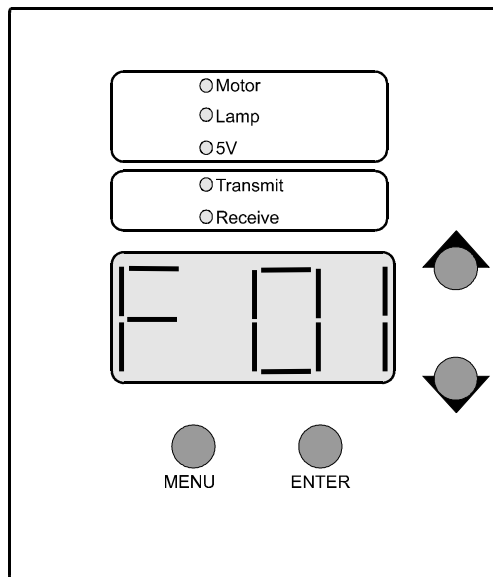

Figure 1.12. Using the Front Panel
3. Press and hold the <MENU> button until the display changes to the ADDR field. Press the <ENTER> button to manipulate the address field. Refer to Figure 1.12.
3. Press and hold the <MENU> button until the display changes to ADDR. Refer to Figure 1.12.